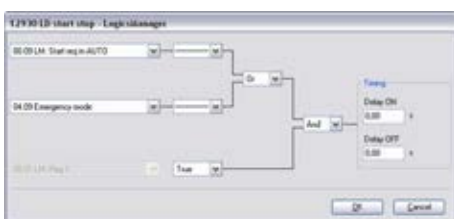

Fig. 147: LogicsManager function "LD start stop"
3. ➤ Configure the LogicsManager function "LD start stop" as shown in (Fig. 147) to enable LDSS if a start request in automatic operating mode or emergency mode are enabled.